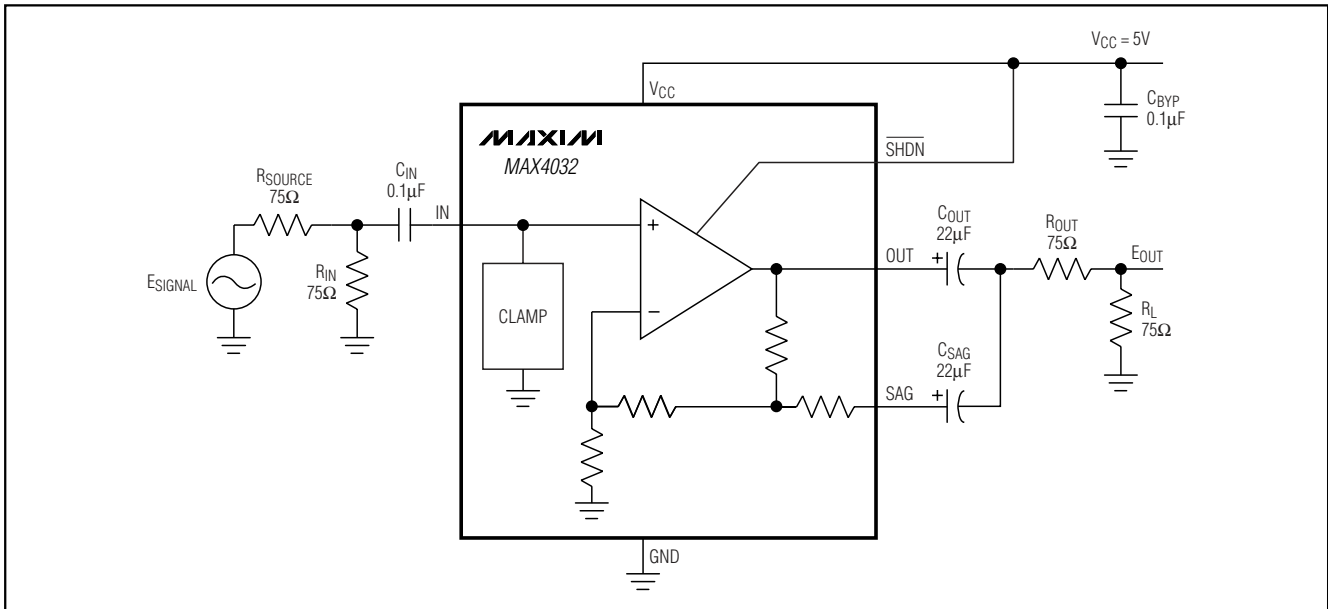

Figure 3. AC-Coupling the MAX4032
- 2) Two capacitors and 150Ω are connected between OUT, SAG, and ground (see Figure 3).
allel with the normal output, as shown in Figure 3. This allows the use of two smaller capacitors (C_{OUT} and C_{SAG}), typically 22μF, substantially reducing the size of the interface caps and their cost while retaining the low-frequency response.
The MAX4032's output is configured to support AC-coupling with minimal capacitance. This is called "sag correction." It refers to the improved bandwidth achieved by using two smaller capacitors to replace a single large capacitor shown in Figure 3.